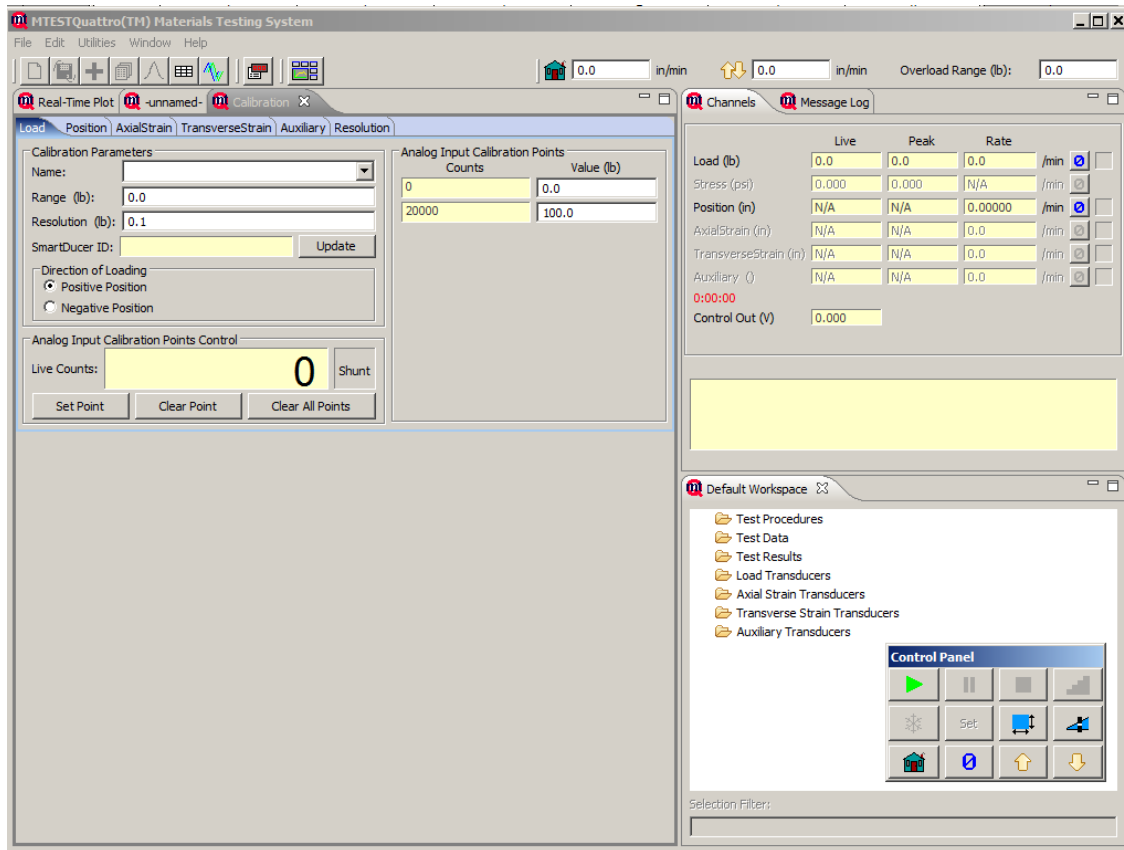

Figure 9: MTEST Quattro Software Main Screen
3.3.4 Click the Calibration button  on the MTEST Quattro Software Main screen shown in Figure 9 above.